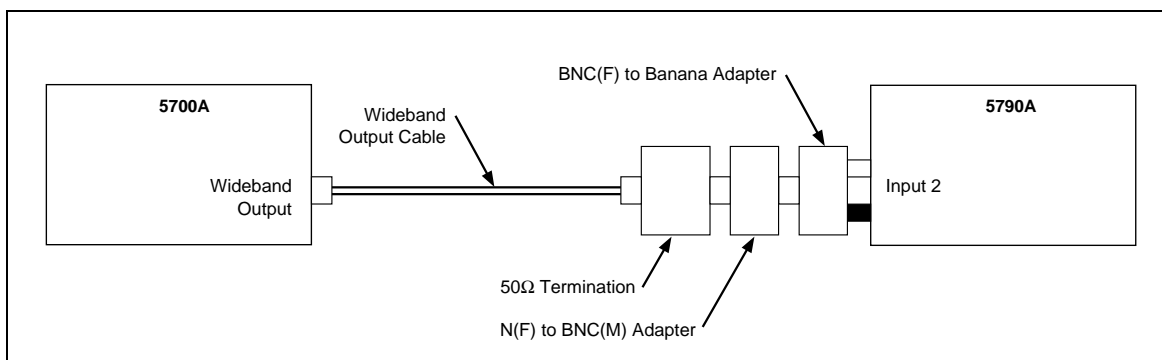

Figure 3-13. Wideband Accuracy at 1 kHz Test Setup
1. Connect the equipment as shown in Figure 3-13.